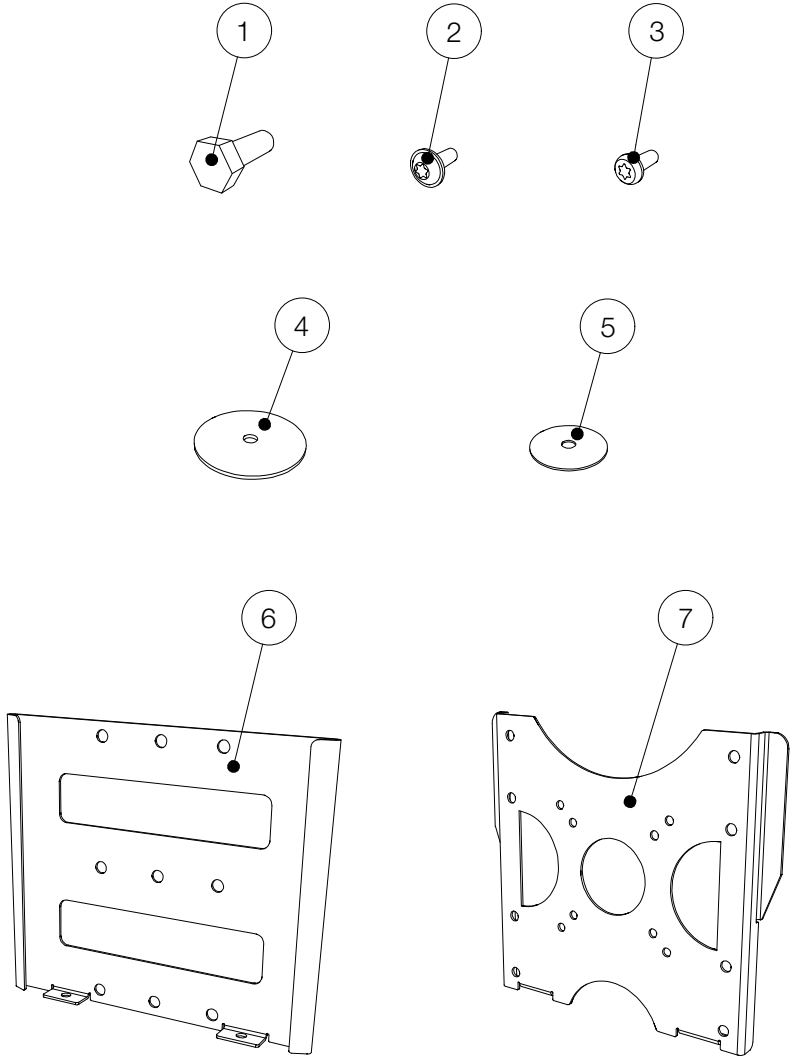

Figure 2.1 - Overview
Attach the loudspeaker plate (see figure 2.1, item 7) of the WHF wall mount flat to the subwoofer. Use the pan head screws with flange (see figure 2.1, item 2) from our scope of delivery.
1. First place the centering plate (see figure 2.1, item 5) into the large center hole of the loudspeaker plate that is already attached to the subwoofer.
2. Place the pressure plate on top (see figure 2.1, item 4) and screw the two plates together using the hexagon head screw (see figure 2.1, item 1).
When attaching the wall plate (see figure 2.1, item 6), follow the instructions from chapter 1 - Safety / Intended use.
In addition, observe the following instructions for attaching the wall plate (see figure 2.1, item 6):
Screw the two plates of the WHF wall mount flat using the two pan-head screws (see Figure 2.1, item 3). Use an extension for the bit insert for this purpose.